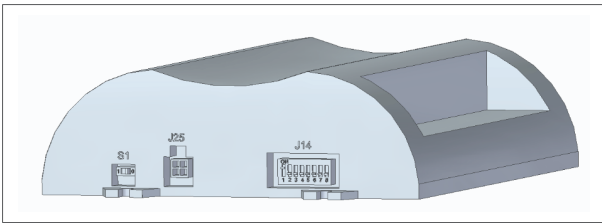

Figure 9 - Location of the S1 and J14 switches
- a. Set the S1 and J14 switches on the control unit as follows (figure 9):